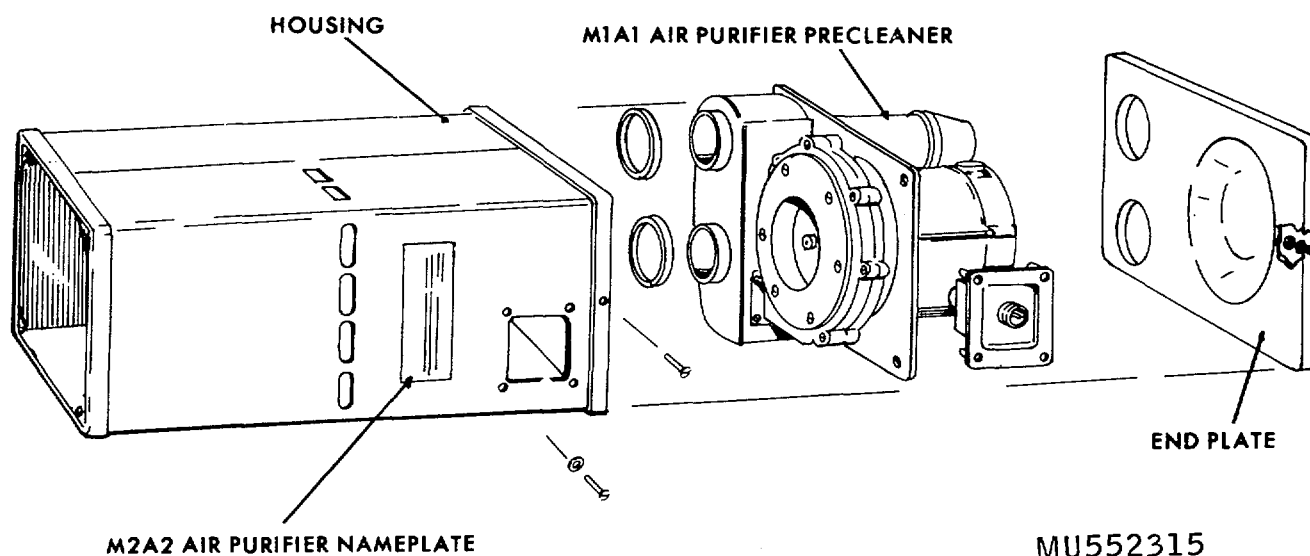

Figure 5-1. Precleaner and housing assembly.
The M1A1 air purifier precleaner (fig. 5-1) consists of an electric-motor-driven centrifugal fan, a dust separator, a mounting plate, rubber channel seals, lockwashers, and screws. The centrifugal fan includes an electrical receptacle connector and cup switch. The electric motor operates on 30 volts ac or 24 volts dc electrical power. When the electric motor is operating, the centrifugal fan draws in air through eight openings in the purifier housing. It blows the air into the dust separator, which traps the dust. The air then flows from the dust separator through two large holes in the housing bulkhead. Also, dirt trapped by the dust separator is blown from the air purifier through two outlets in the end plate. The air deflector, which is mounted on the filter side of the housing bulkhead, deflects the airstream so that the air flows evenly through all parts of the particulate filter rather than through a small area of the filter.
a. *End Plate.* Remove six screws, lockwashers, and nuts that hold the end plate in the housing. Remove four screws and washers that hold switch cup to the housing. Insert a brass nonmetallic drift pin through the switch cup hole in the housing against the inside surface of the end plate. Use a hammer against the drift pin and drive the end plate free of the housing. Examine the rubber grommets to make sure they are not deteriorated. Remove the grommets by working them free of the end plate (fig. 5-1). Clean all parts as necessary. Discard all faulty parts and replace with new ones.
of the M1A1 air purifier precleaner (fig. 5-2) is required, remove it as a unit from the precleaner and housing assembly (fig. 5-1).